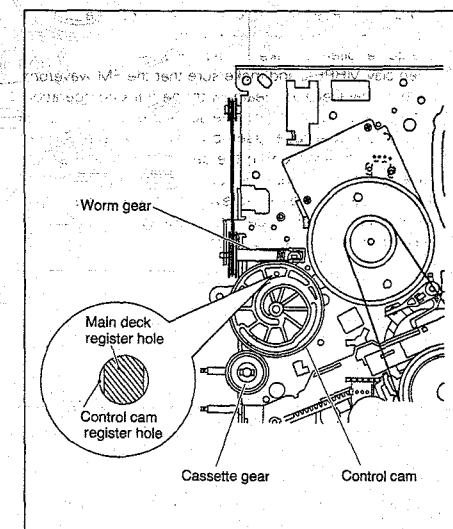

Fig. 2-3-4
(1) Install the control cam as indicated in Fig. 2-3-4 making sure of the front and back side alignment.
(2) Install the cassette gear by pushing it until it is locked with a clicking sound. (See Fig. 2-3-4)